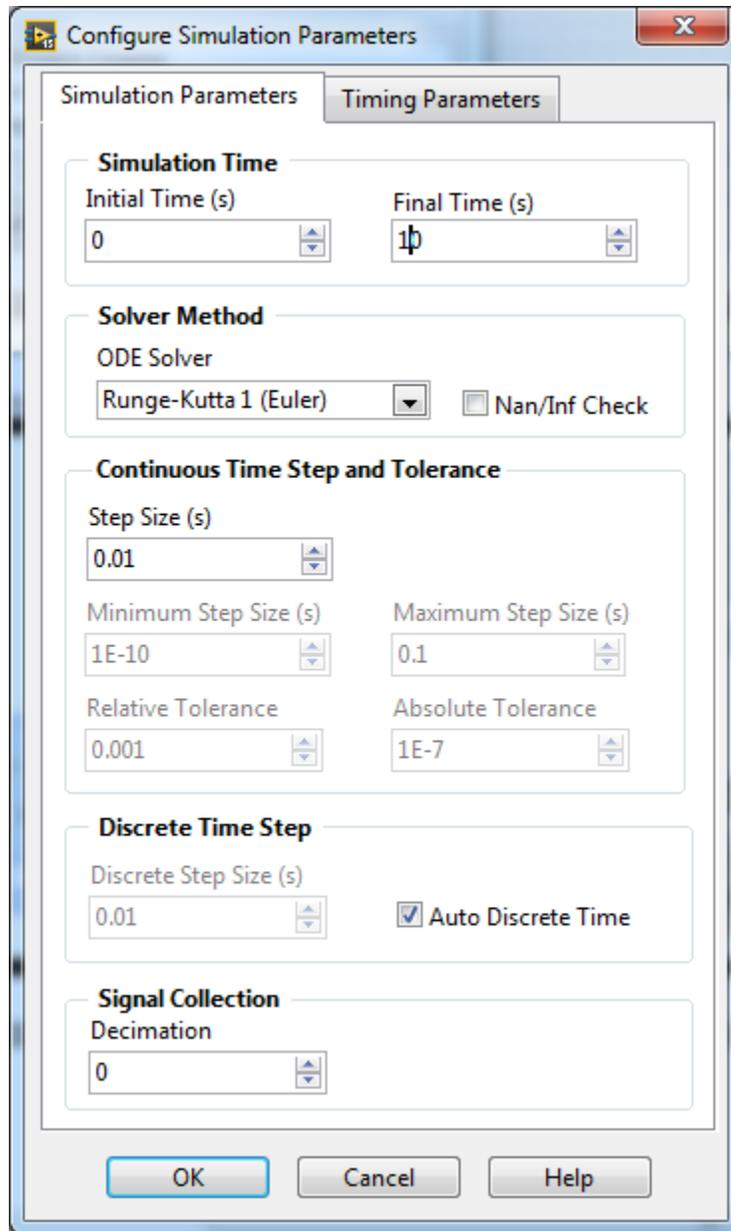
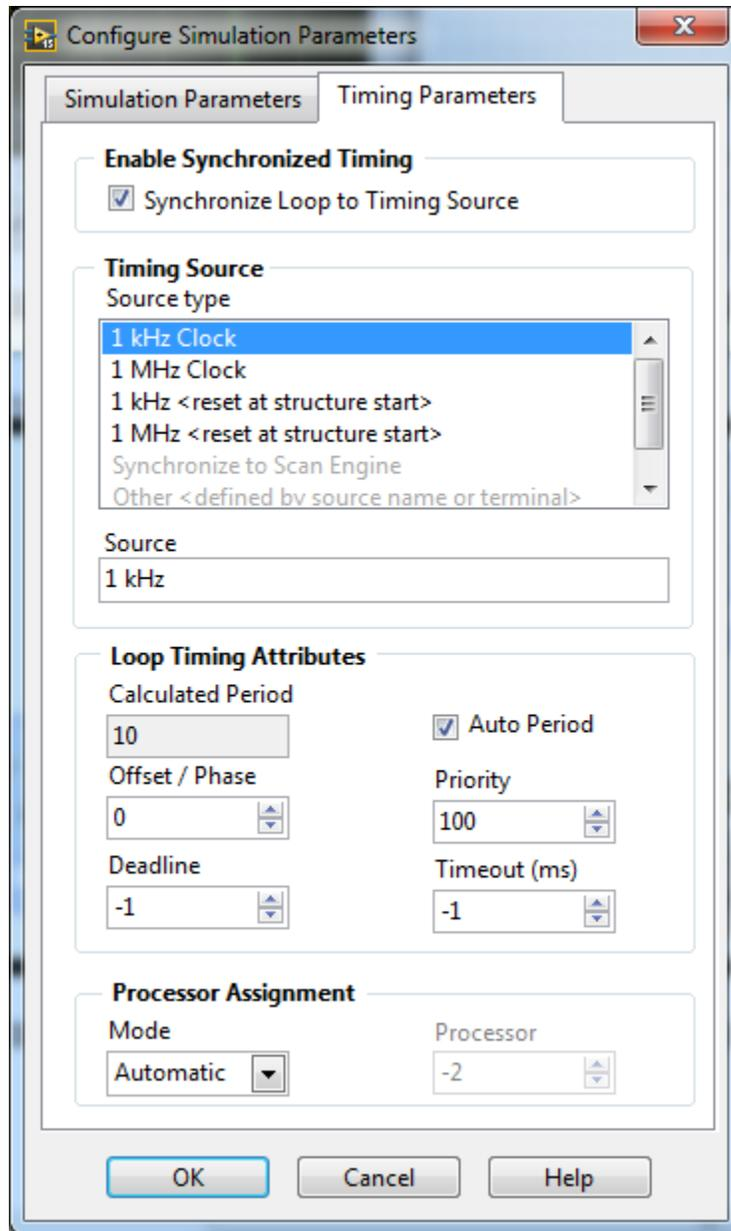

Figure 6 - Configure Simulation Parameters dialog box - Simulation Parameter tab
Figure 7 - Configure Simulation Parameters dialog box - Timing Parameters tab
- Right click on the box in the attached to the upper left corner of the **Control & Simulation Loop** and select properties. Make sure it matches the values in Figure 6 and Figure 7. In the Simulation Parameters tab, change the solver to **Runge-Kutta 1** and the Step Size to **0.01**. In the Timing Parameters tab check the **Synchronize Loop to Timing Source** box.